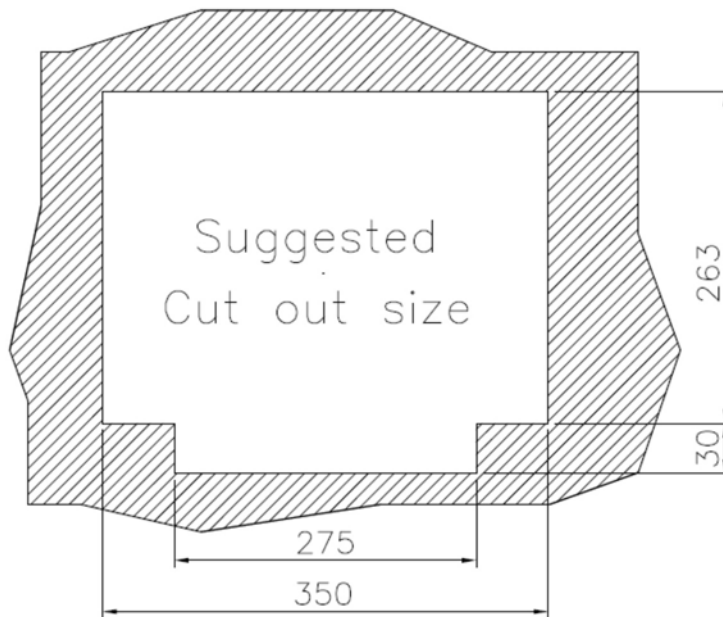
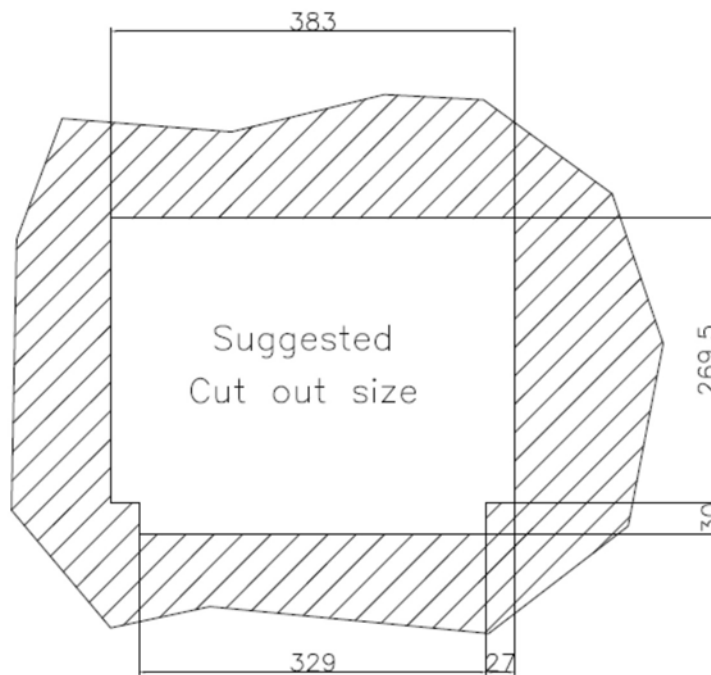
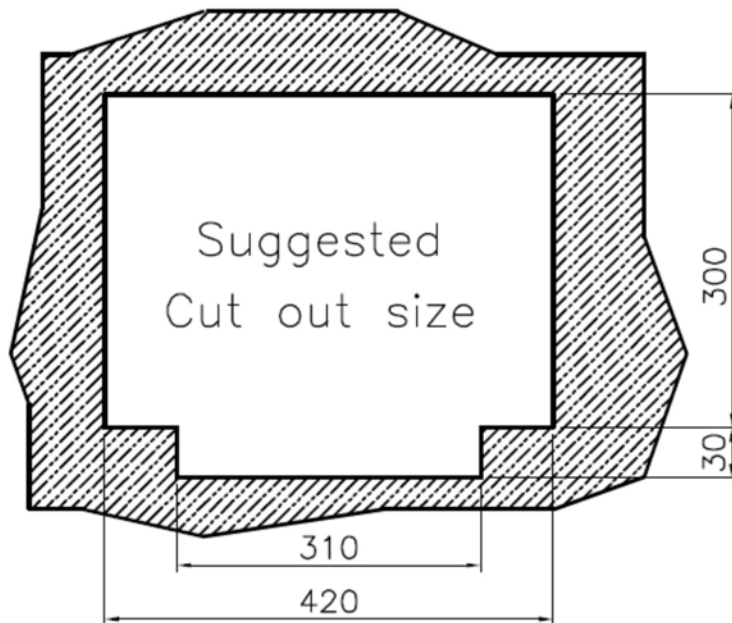

Figure 3-12: AFL-15B-915 Cutout Dimensions (units in mm)
Figure 3-13: AFL-17B-915 Cutout Dimensions (units in mm)
Figure 3-14: AFL-19B-915 Cutout Dimensions (units in mm)
Step 2: Cut out a section from the panel that corresponds to the rear panel dimensions of the flat panel PC. Take care that the panel section that is cut out is smaller than the overall size of the metal frame that surrounds the flat panel PC but just large enough for the rear panel of the flat panel PC to fit through (Figure 3-12, Figure 3-13 and Figure 3-14).